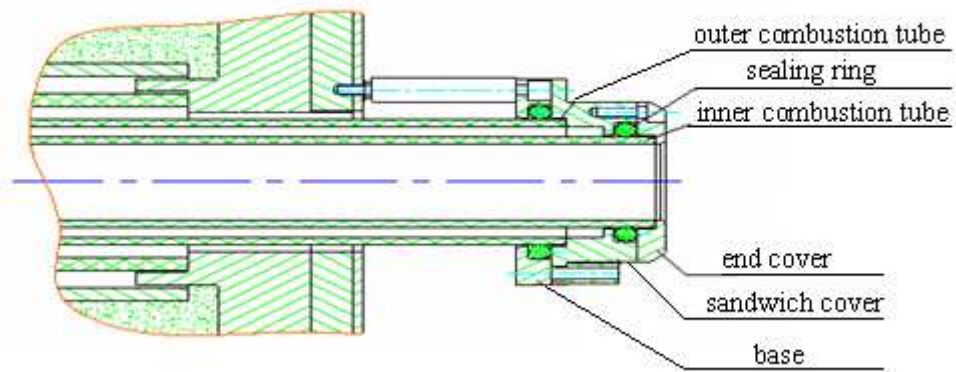

Fig. 3-2 Installation Diagram of Sandwich Cover and End Cover of Sample Presentation Mouth
- 8) The detailed installation diagram is shown in Fig. 3.2.